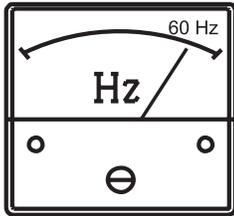

Figure 29. Frequency Meter
6. The generator's frequency meter (Figure 29) should be displaying the 60 cycle output frequency in **HERTZ**.